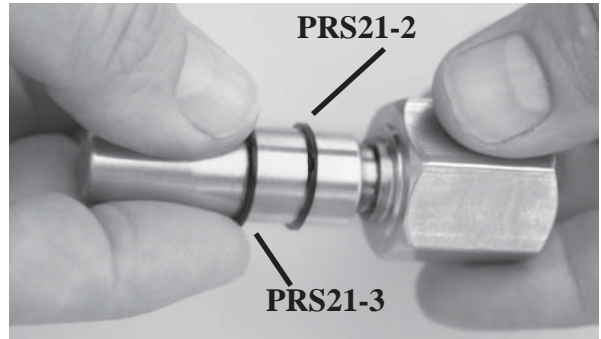

figure 16
9.7.1.2 Install the seals and backup rings starting from the hex knob. If using the PRS21-8-1, first install backup ring (PRS21-2) and O-ring (PRS21-3) (figure 16).